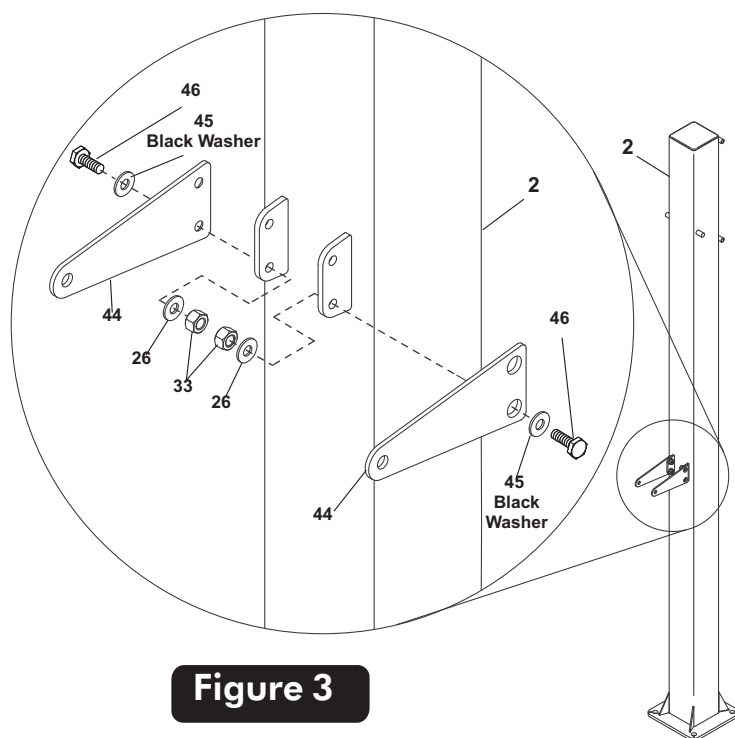

Figure 3
1. Attach Post Brackets (#44) to outside of brackets on back of Post Assembly (#2). Secure with two Hex Head Bolts (#46), two Flat Washers (#26), two Black Flat Head Washers (#45) and two Locknuts (#33) in each Bracket (#44). Note: Use black washer under head of bolt. See Figure 3.